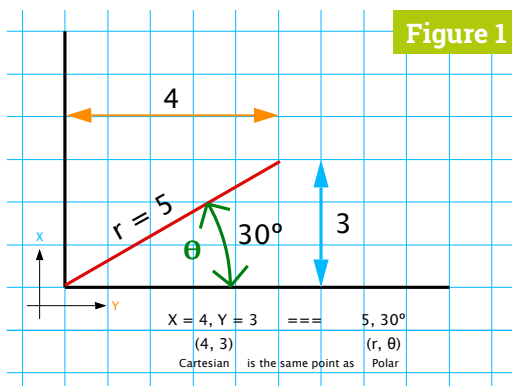

Figure 1
When we plot a graph, we use points defined by how far along and how far up; these are called Cartesian co-ordinates. **Figure 1** shows a line connecting the point four units along and three units up and the origin, which is no units along and no units up. This will produce a line which is 5 units long and has an angle of 30°, marked with θ (theta). Instead of defining that point in Cartesian co-ordinates, we can simply use r and θ : how far out and how far round. These are known as polar co-ordinates.
▶ **Figure 1** Two types of graphing co-ordinate systems